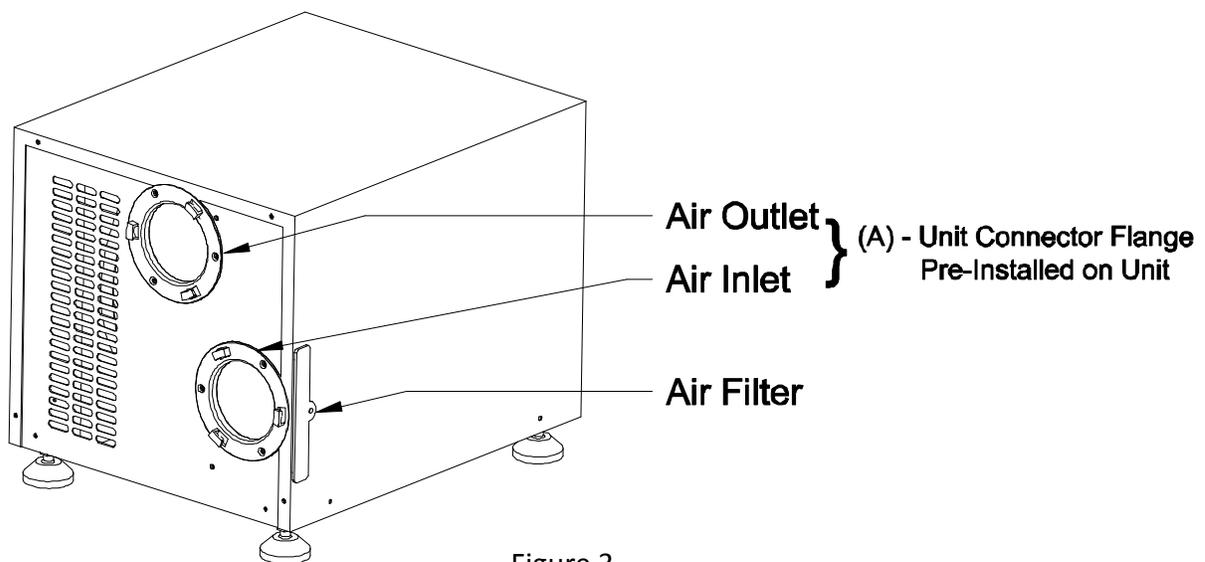

Figure 3
9. Take 3 screws and secure the Building Flange into the structure. Repeat steps 6-8 for the second Building Flange (D).
10. The Air Hoses (C) and Hose Flanges (B) are pre-assembled at the factory. Take one of these assemblies and extend the accordion style hose so it is long enough to reach the unit and the structure.
11. Mate the Hose Flange (B) to the 'Air Outlet' Unit Connector Flange (A) (See Figure 3) that is pre-installed on the unit. Turn the Hose Flange clockwise until they "click" together.
12. Take the other side of the Air Hose and Hose Flange and install it onto the higher Building Flange (D).